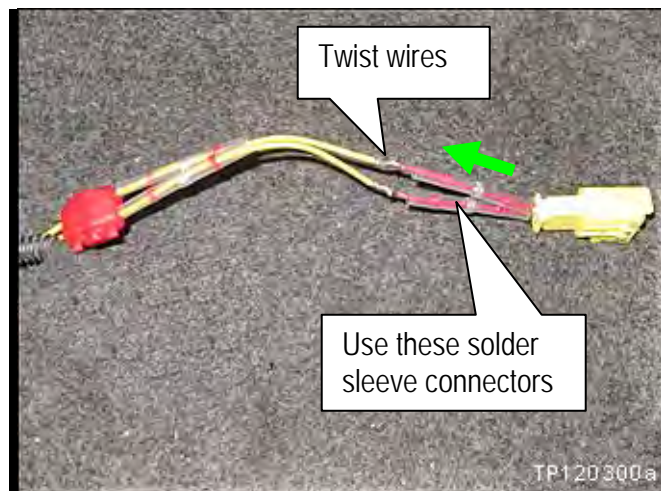

Figure CR16
14. Twist the wires of the new SAB connector together with the wires of the SAB harness as shown in Figure CR16.
15. Slide the solder sleeve connectors from the connector side over the twisted wires (see Figure CR16).